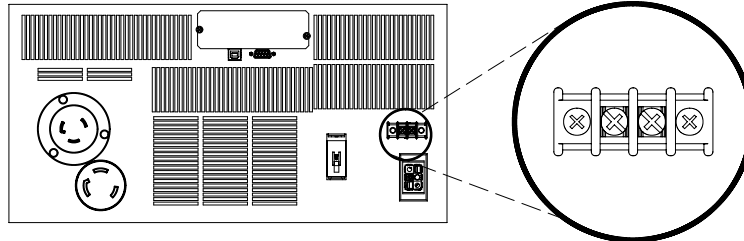

Figure 11. REPO Connector
2. Connect the switch or circuit to the REPO connector on the UPS rear panel using insulated 0.75 mm²–0.5 mm² (18–20 AWG) wire. See Figure 11.